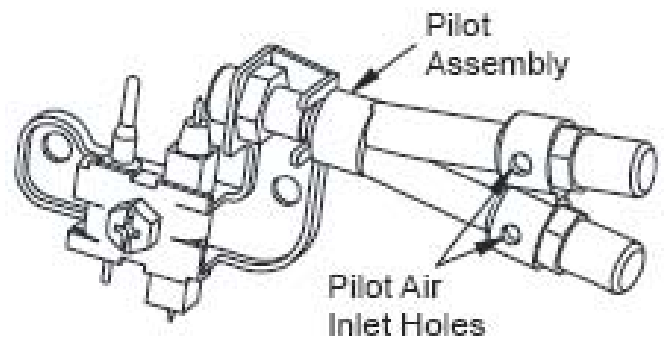

Figure 31 - Pilot Air Inlet
4. Never insert objects into the pilot tube. Clean the pilot assembly also. A yellow tip on the pilot flame indicates dust and dirt in the pilot assembly. There is a small pilot air inlet about two inches from where the pilot flame comes out of the pilot assembly (see Figure 31). With the unit off, lightly blow air through the air inlet. You may blow through a drinking straw if compressed air is not available.